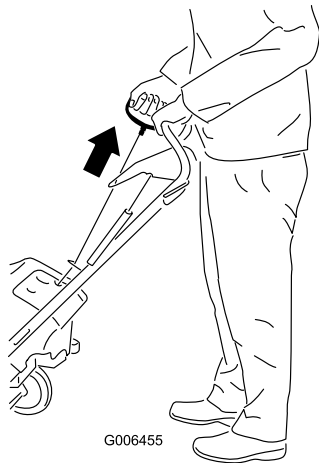

Figure 14
4. Pull the recoil-start handle (Figure 14).